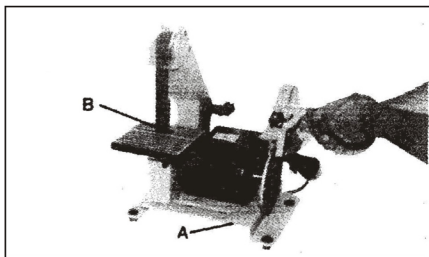

Figure 3
Position the sanding disc guard over the disc as shown in **Figure 3**. Fasten the guard down using the allen head screws provided.
The platen can be adjusted by loosening the two screws that fasten it to the frame (B), as shown in **Figure 3**. The platen should be adjusted so that it almost touches the back of the abrasive belt.